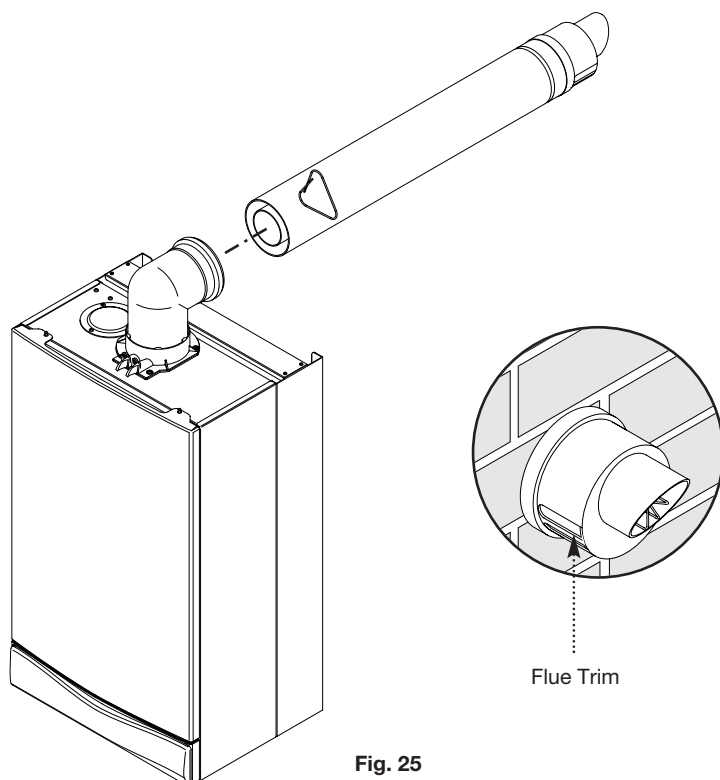

Fig. 25
9. Draw the flue back through the wall and engage it in the elbow. It may be necessary to use soap solution or similar to ease assembly of the elbow adaptor and flue (Fig. 25).